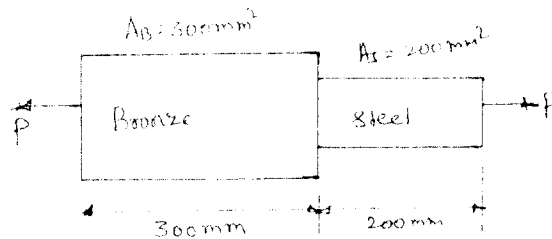

Fig. Q1 (b)
- b. A compound bar is made of a bronze bar of 300 mm^2 cross sectional area and a steel bar of 200 mm^2 cross sectional area connected in series. The lengths of bronze and steel portions are 300 mm and 200 mm respectively. Determine the maximum force P that can be applied on the compound bar. Taking allowable stress for bronze and steel as $\sigma_b = 90 \text{ MPa}$ and $\sigma_s = 130 \text{ MPa}$. Also determine the net deformation in the compound bar. Take $E_b = 85 \text{ GPa}$ and $E_s = 200 \text{ GPa}$ (Refer Fig. Q1 (b)). (12 Marks)